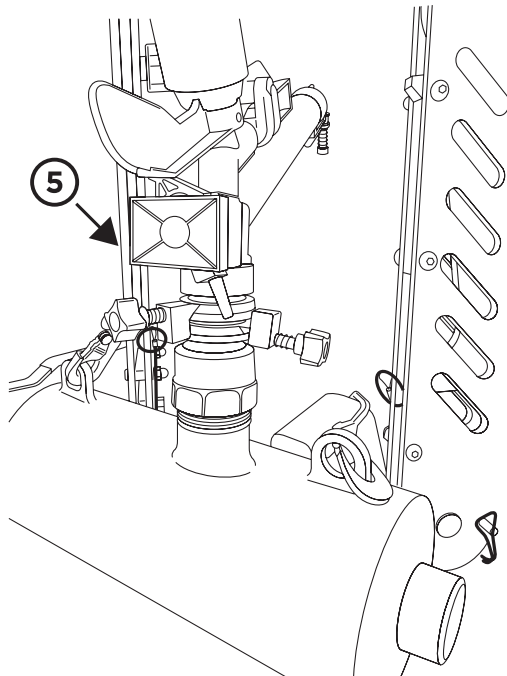

Figure 4.
- Position the plastic stays **5** on the back of the sprinkler head to control the arc of travel of the sprinkler head, *Figure 4*.